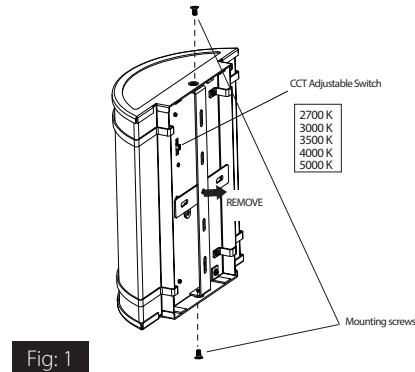

Fig: 1
2. Select the desired LED color temperature by using the switch situated on the back of the luminaire (*Fig. 1*).
3. Remove the mounting brackets assembly from the luminaire by unscrewing the two screws (*Fig. 1*).